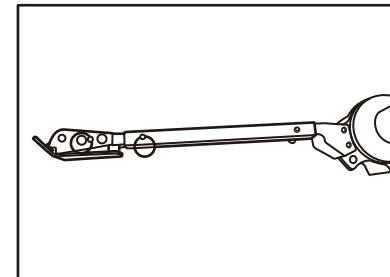
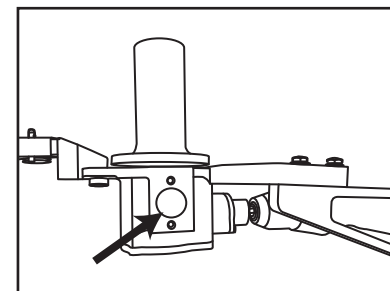

Fig 12
Fig 14
2. The Front Extension (6) can be lengthened by removing the front pin and sliding out the extension. Reinstall pin to secure Front Extension (6). This will lengthen the puller an additional 6" (Fig 12 and 13).
4. If rope slippage occurs on the Capstan (1), stop puller and add additional wraps to the Capstan (1) to increase friction and decrease slippage.
5. For long underground pulls, the addition of a cut and threaded piece of $\frac{3}{4}$ " rigid conduit can be threaded into the bottom of the Gear Box (4) for added support (Fig 14).
6. Capstan (1) can be removed to help facilitate removal of polyline/mule tape. With a firm grip on Capstan (1), pull away from Gear Box (4). This feature can be used when Capstan (1) is full and the removal and replacement of a second Capstan (1) can be started. With new Capstan (1) in hand align the index pin on Gear Box Output shaft with notches on underside of Capstan (1) and press Capstan (1) firmly towards Gear Box (4) until seated. Refer to POLYLINE/MULE TAPE SETUP Section A for setup instructions.